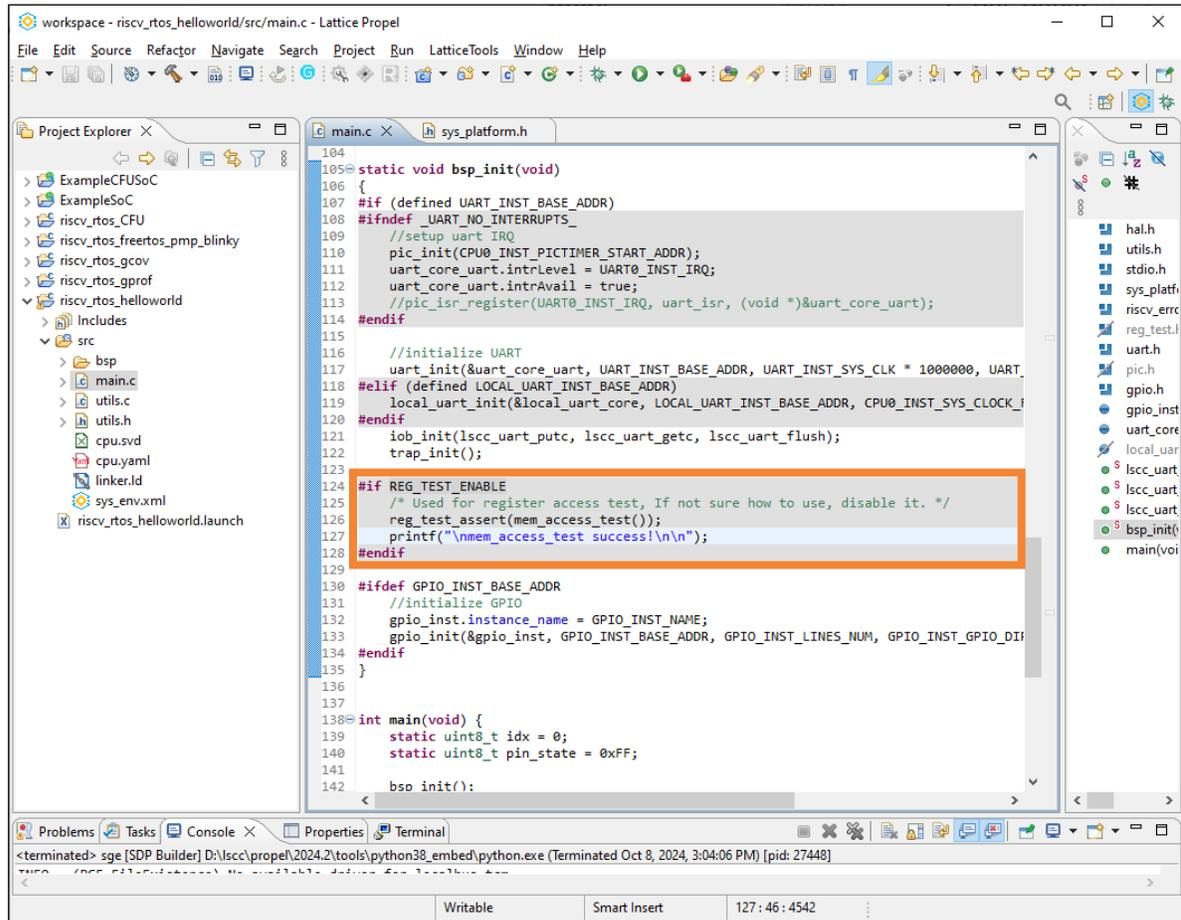

Figure F.3. Test Entrance
1. Find the test entrance from the C project just created (Figure F.3).